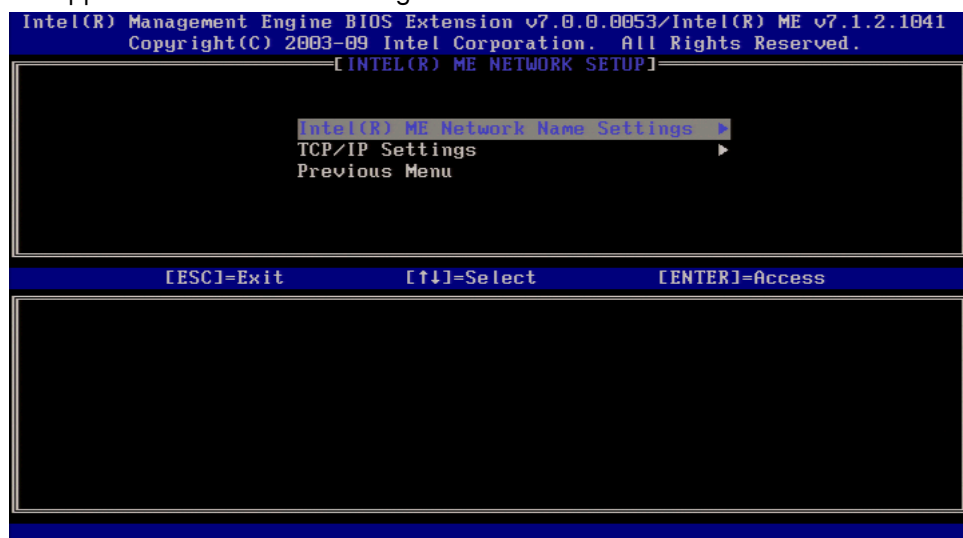
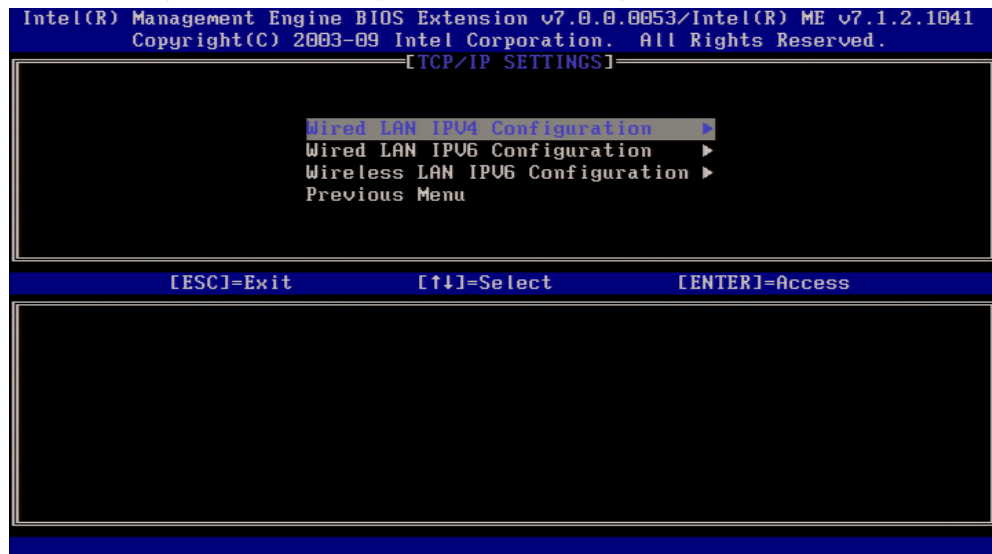

Figure 13. Intel AMT Network Setup Screen
Figure 14. Intel AMT TCP/IP Settings Screen
14. At the previous menu (step 13) select Network Setup. The Network Setup menu appears as shown below in Figure 13.
15. At the previous menu (Figure 13), select **TCP/IP Settings** and view the AMT TCP/IP Settings screen (Figure 14). AMT 7.1 supports IPV4 and IPV6 interface. Follow steps 15a-15f to configure for IPV4 and 15g-15h for IPV6.